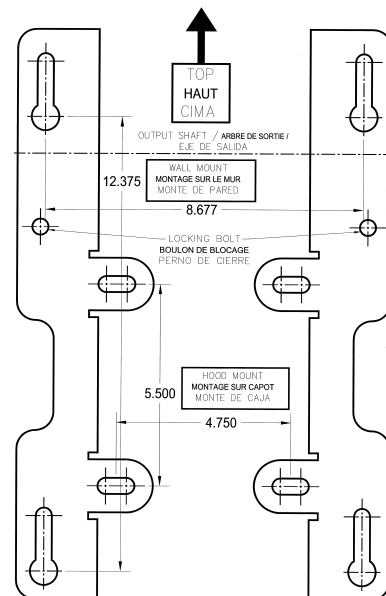

Figure 7 - Opera Mounting Holes
2. Locate the four mounting holes, as shown in Figure 7.